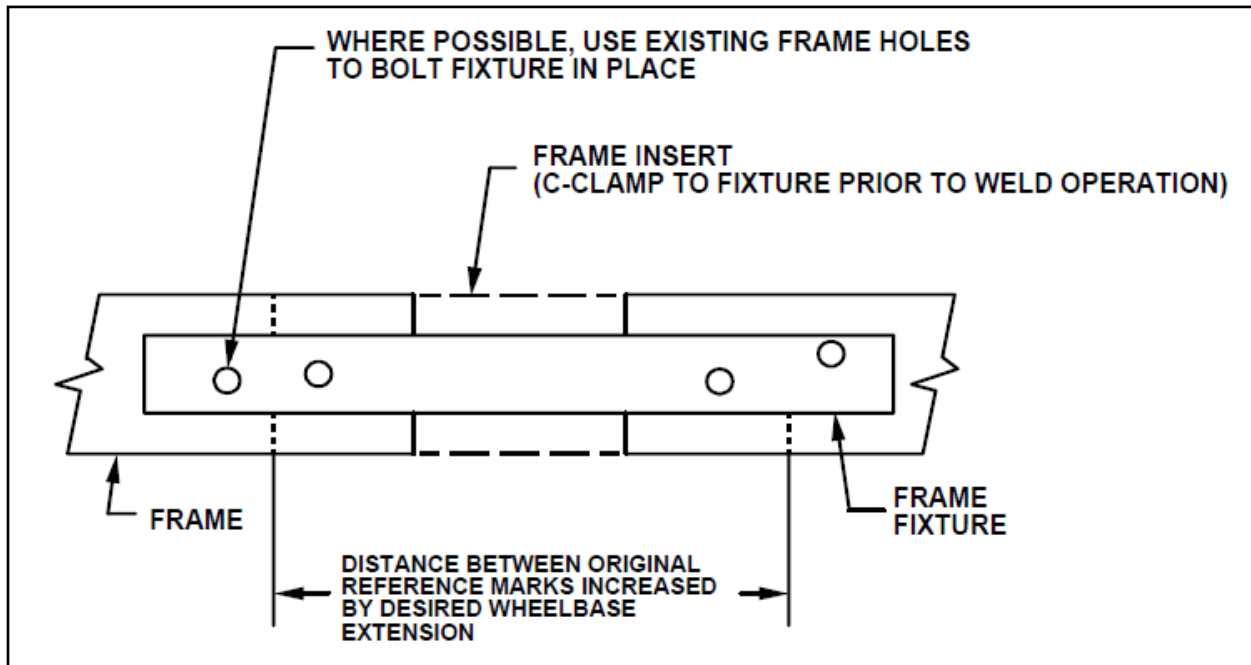

Figure 30 – Welding Fixture
- Fixture and clamp the insert to ensure correct alignment. Dimensional checks to the predetermined reference marks should be used to prevent any possible error. (See Figure 30)